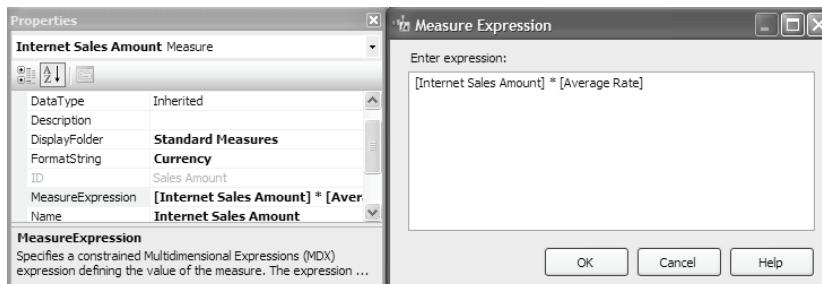

Figure 4.48 Use measure expression to implement simple and efficient calculations.
3. Type in the following expression in the Measure Expression dialog (Figure 4.48):